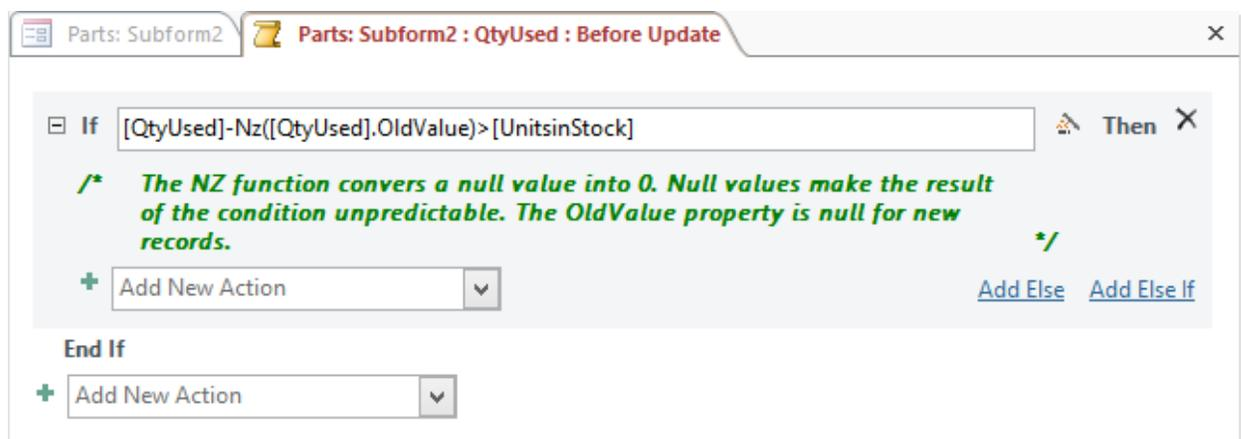

Figure 39: Comment Specified for the If Action
5. **Document the Condition:** Drag and drop a comment action from the Program Flow group in the Action Catalog to the *If* action in the Macro pane. Enter text in the *Comment* column to document the condition. Figure 39 shows the *If* action with the comment added.